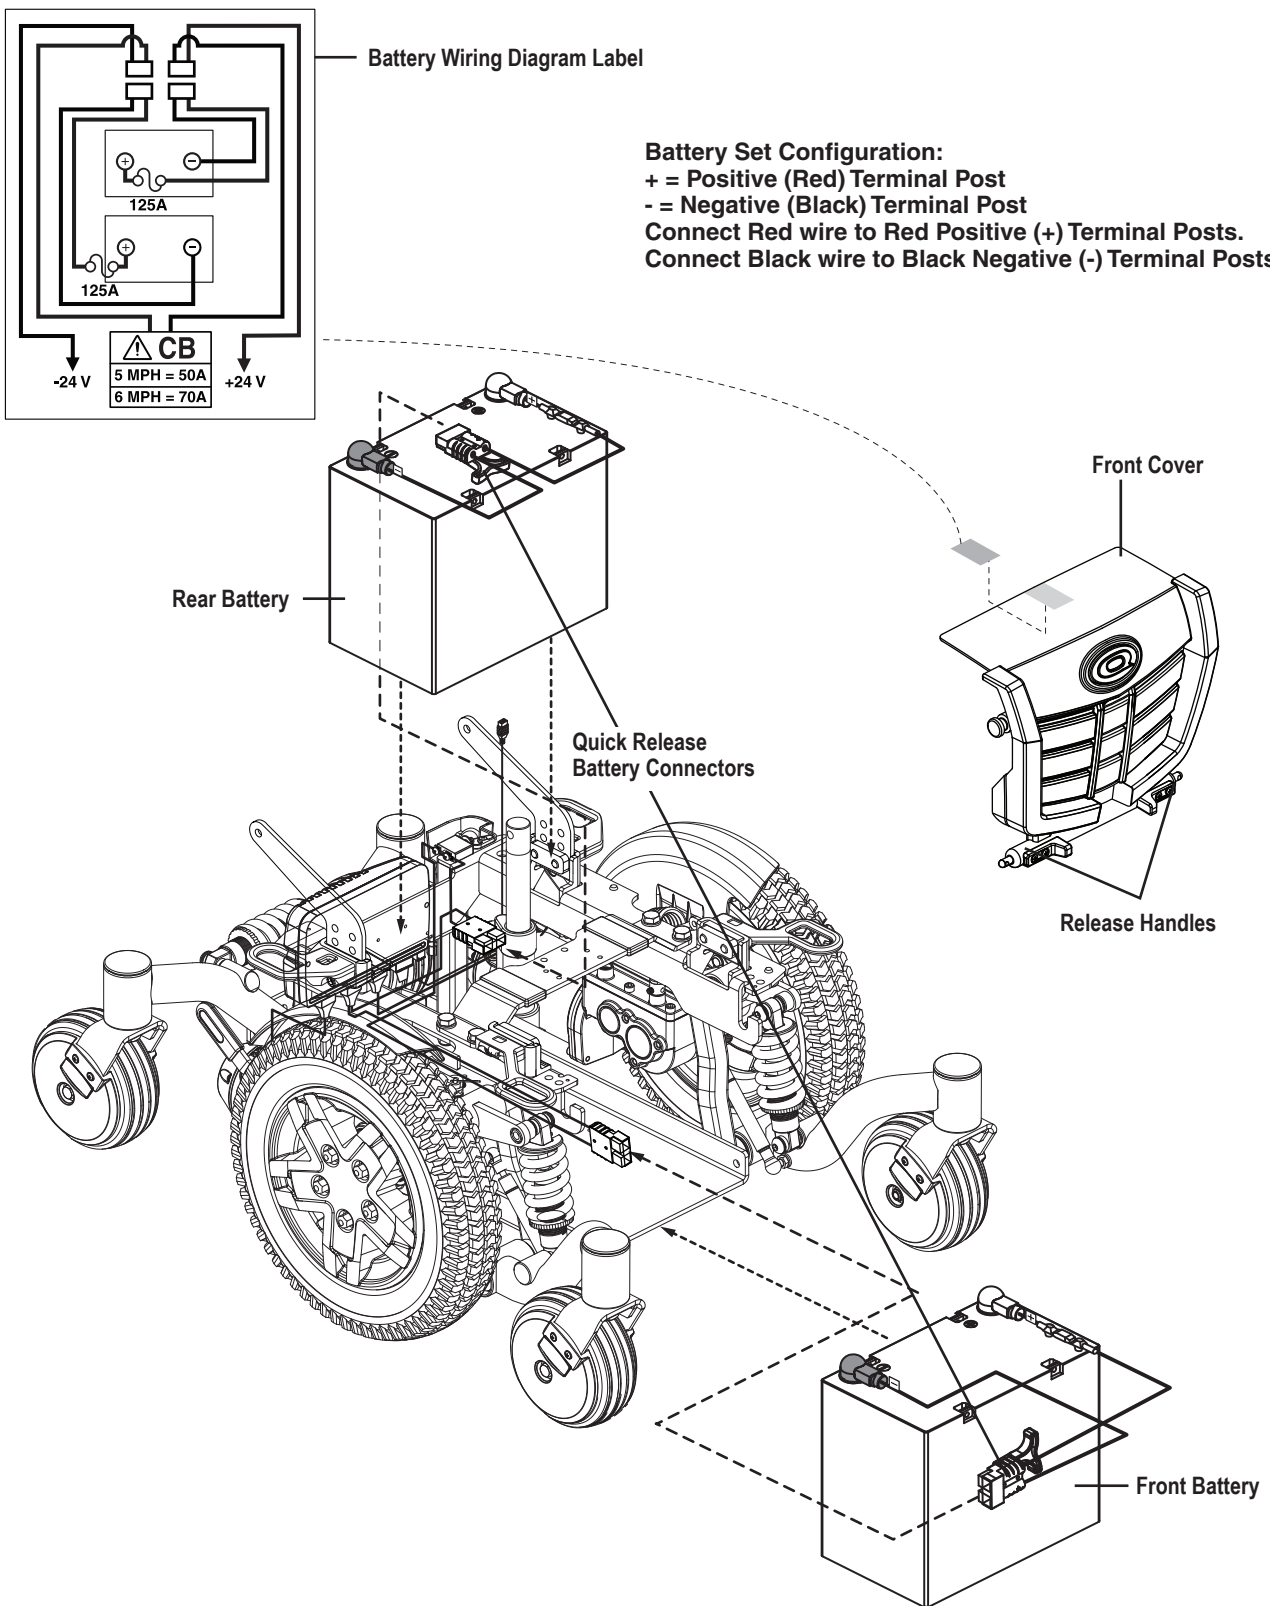

Figure 28. Battery Installation
6. Remove the front cover by squeezing the release handles (**see figure 28**) and lifting the front cover up and away from the power base.
13. Connect the battery harness to the new front battery according to the battery wiring diagram. **See figure 28.**
14. Connect the battery harness to the new rear battery according to the battery wiring diagram. **See figure 28.**